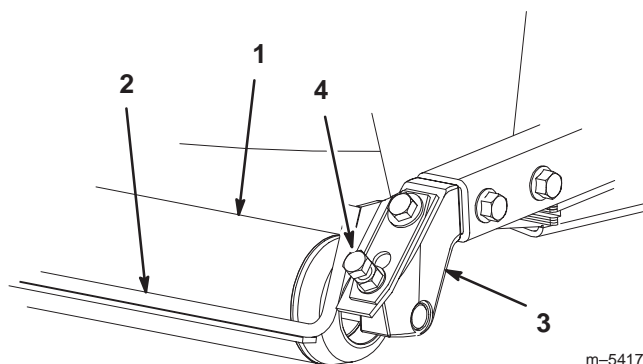

Figure 1
1. Remove mounting screws and nuts securing the scraper to roller mounts (Fig. 1). Remove scraper and plates.
2. Remove mounting screws securing roller mounts to rear of deck frame (Fig. 1). Remove roller mounts.
3. Remove the lower screws securing each end of roller to roller mounts (Fig. 1).